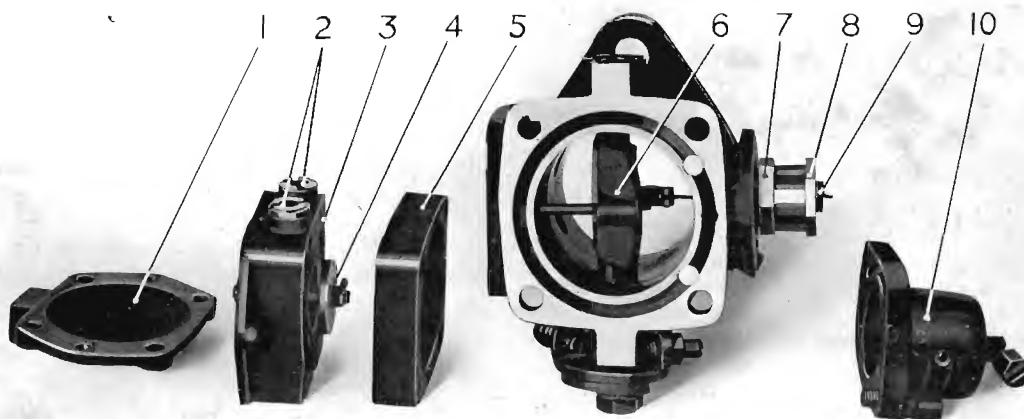

Fig. 10.
The thermostat control consists of a bi-metal strip attached to the exhaust manifold and an air pipe connected to the starter behind a diaphragm. While the engine is cold the pipe is open to the atmosphere and the suction in the starter, when the engine is turned, operates the diaphragm in the starter (3), Fig. 10, which opens the starter valve (4). As soon as the exhaust manifold reaches a pre-determined temperature the bi-metal strip expands and closes the air pipe thus releasing the pressure on the diaphragm and closing the starter valve.
The governor is extremely simple consisting of an adjustable spring (9), Fig. 10, controlling the throttle butterfly (6). The governor